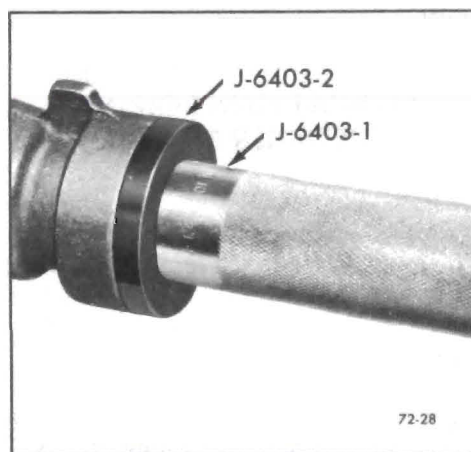

Figure 72-28 - Installing Rear Bearing Retainer Oil Seal
a. Install J-6403-2 onto J-6403-1. See Figure 72-28.